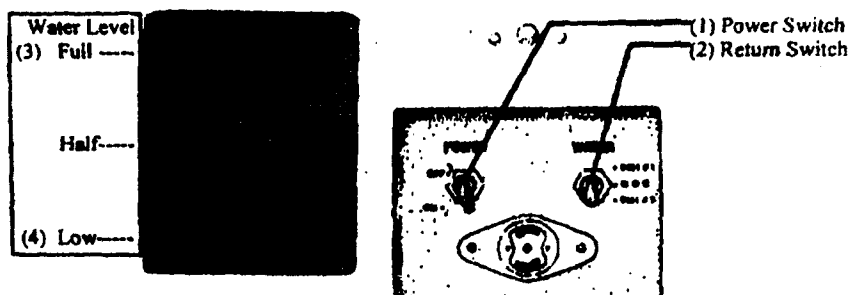

FIGURE 2-1. Operator's Controls and Indicators.
- 2-1. **CONTROLS AND INDICATORS.** The operator's controls and indicators are shown in figure 2-1 and described in table 2-1 below.
- f. Turn the WRS power switch off (figure 2-1) and attach the power cord to WRS by inserting the power cord plug (female end) into the WRS power cord receptacle. Attach the other end to a 115 volt power source.
- m. Fill the water tank by turning on the faucet. Turn the faucet off when the water Level in the WRS has reached the full line. (Figure 2.1)